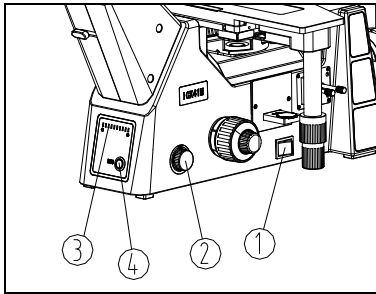

Fig. 14
(1) Turn on the power supply, and put the power switch ① at “ON” position. (Fig. 14)
(2) Turn the knob ② to adjust brighten till comfortable. Turning in clockwise to make the light brighter while anticlockwise for weak light. The brightness will show on ECO display ③.